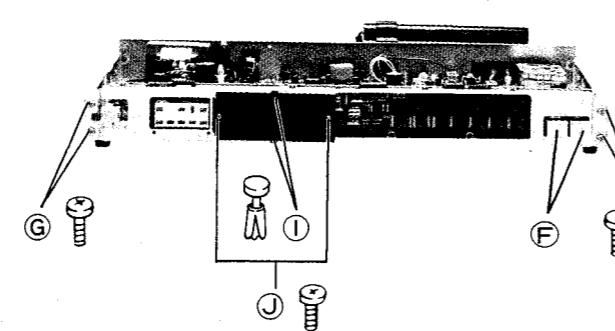

Figure 9
2. Remove UP/DOWN button **(F)** (See Figure 9)
3. Remove four screws **(G)** ($3\phi \times 6mm$) and three plastic rivets **(H)** holding the front chassis. (See Figure 9 and 10).
4. Remove two plastic rivets **(I)** ($3\phi \times 6mm$) and two screws **(J)** ($2\phi \times 3mm$) holding display P.C. Board. (See Figure 9)